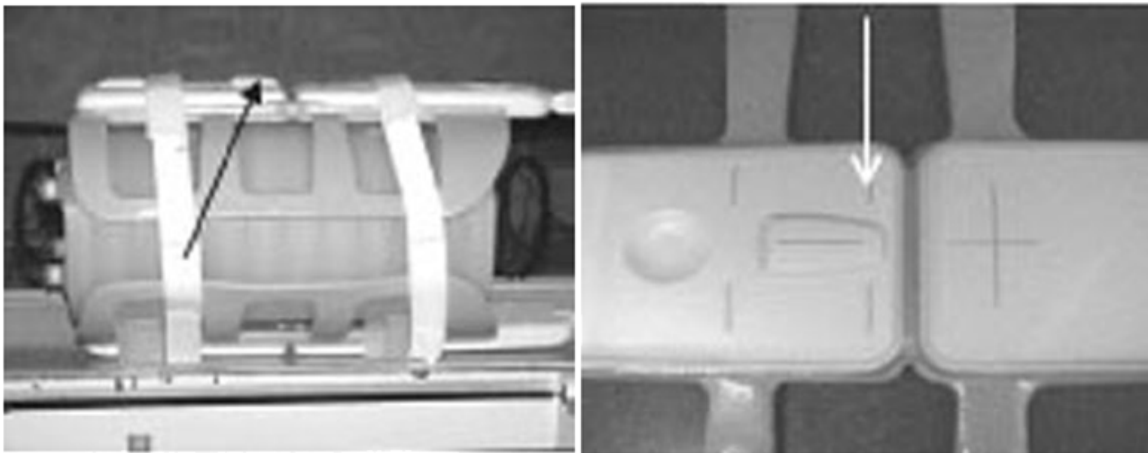

Figure 12: Landmarking the coil.
4. Landmark the coil at the indicated line and advance to scan (see Figure 12).